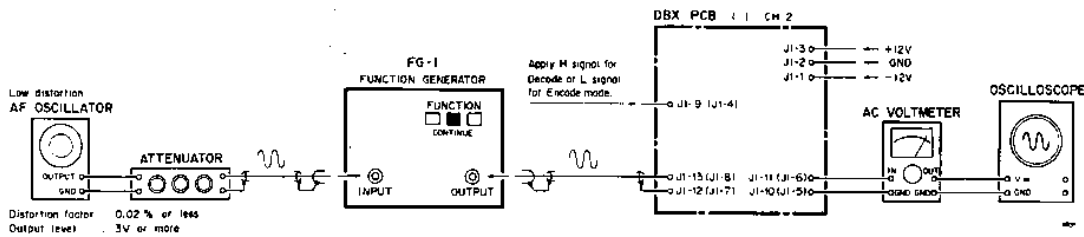

FIG. 40. RMS SYMMETRY & LEVEL ADJUSTMENTS
1. Apply +12 V to J1-3 and -12 V to J1-1 on the DBX PCB (refer to Fig. 40).
A. RMS Symmetry Adjustment (Connections: Fig. 40)
C. Decoding Level (Connections: Fig. 40)
D. Frequency Response (Connections: Fig. 40)
F. Decode Effect Check (Connections: Fig. 40)
C. Encoding Level (Connections: Fig. 40)
F. Encode Effect Check (Connections: Fig. 40)